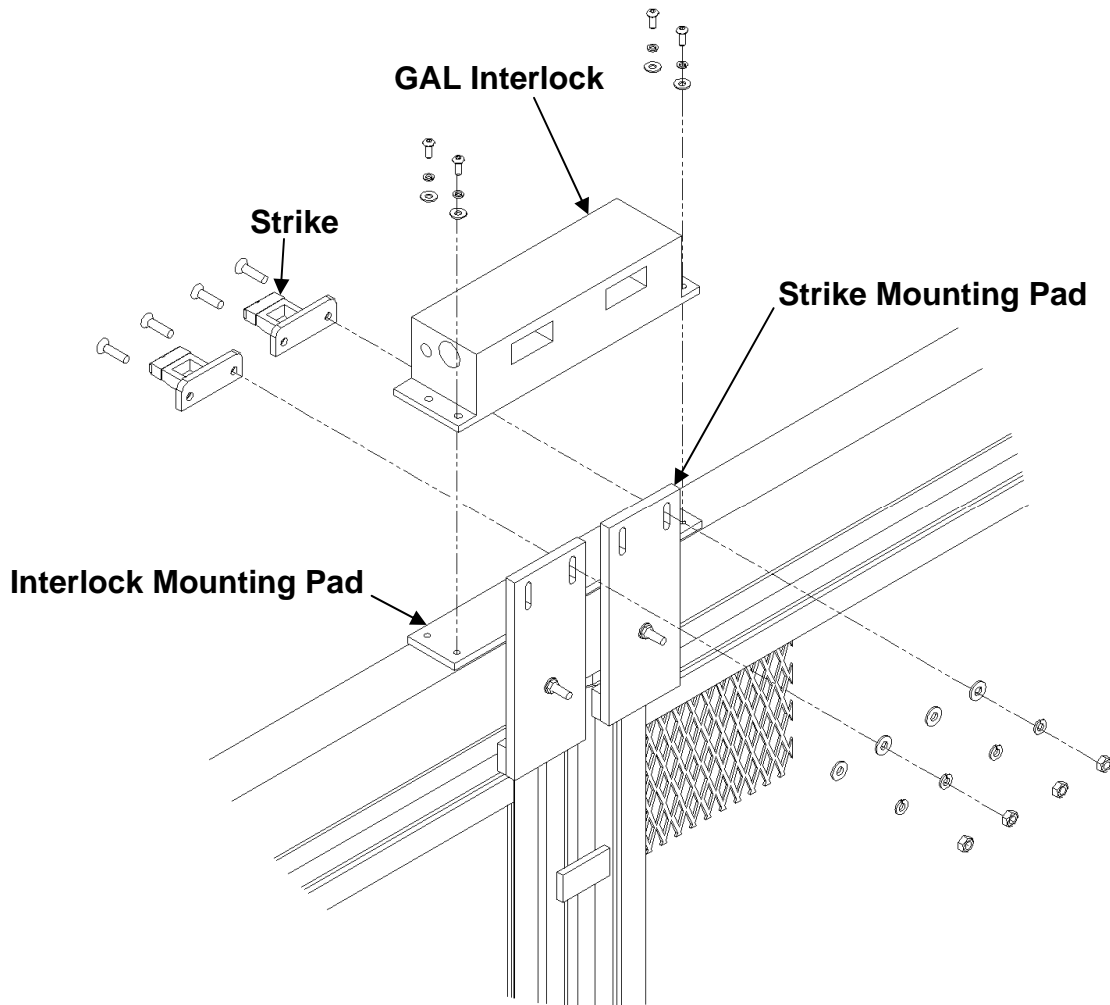

Figure 14 – Interlock and Strike
1. With the hardware provided, mount the interlock to the mounting pad welded to the gate header (see **Figure 14**).
2. Using the ¼”-20 UNC hardware supplied, bolt the strike to the mounting pad on each gate panel (see **Figure 14**).